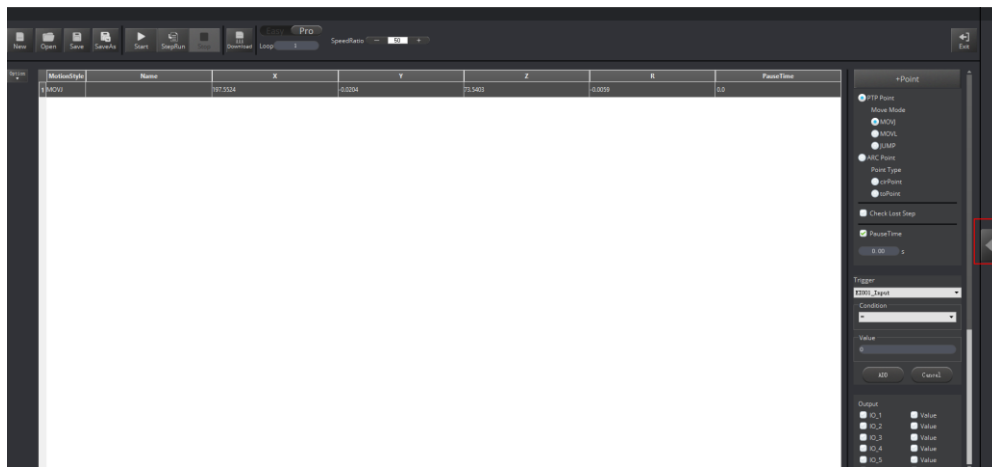

Figure 5.19 Display the Operation Panel
2. Click  to display the **Operation Panel**, as shown in Figure 5.19.